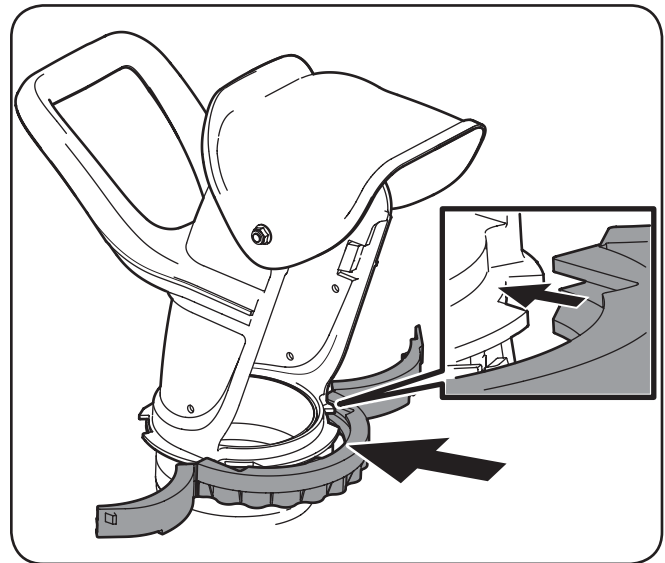

Figure 3-6
- With the discharge chute positioned to the right as shown, install the chute band by lining up the notches in the front with the band, and making certain to fit the discharge chute inside the channel of the chute band, as detailed in the inset of Figure 3-6.